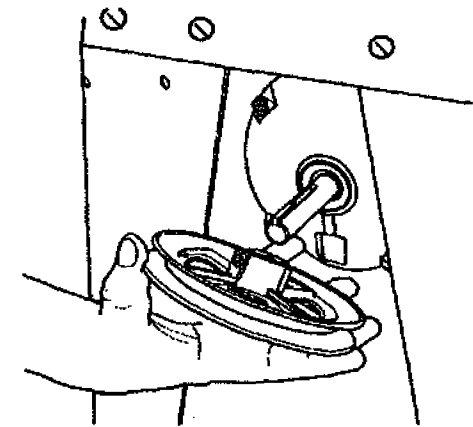

Fig. 29
36. Use a 5/32" Allen wrench to loosen the setscrew in the larger 5" pulley. Insert the drive shaft through the pulley's hole. Line up the pulley setscrew on the key. See Fig. 29.